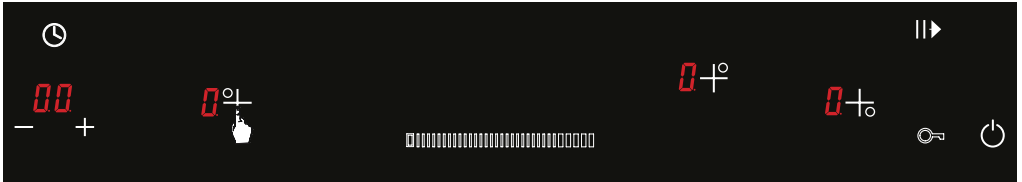

Figure 7
2. After selecting the relevant hob (See Fig. 7), slider is brought to the **0** temperature level. (See Fig. 8) Temperature value flashes for 5 seconds. **H** symbol flashes if the relevant hob is still hot at the end of this period. (See Fig. 9)